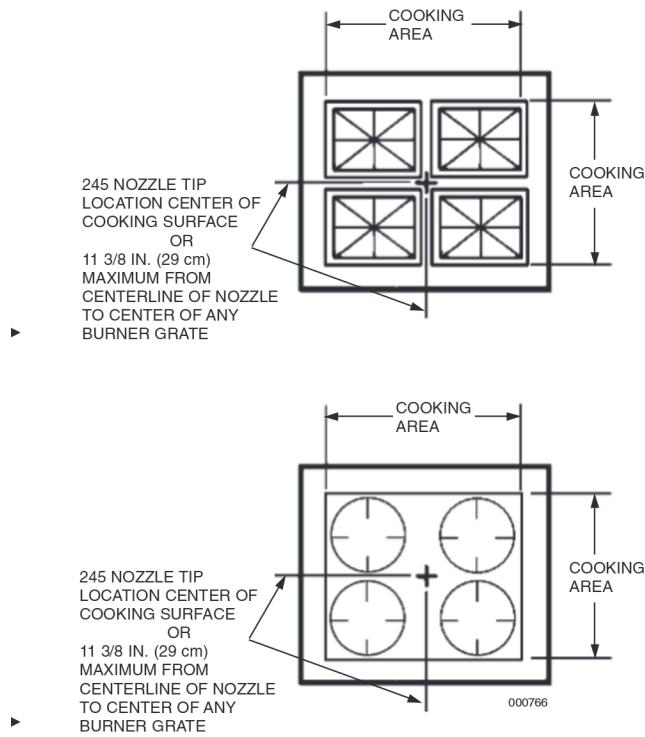

FIGURE 30
- ▶ Four burner grates shown in Figure 30. For single or double burner grates, locate nozzle at center of cooking surface or 11 3/8 in. (29 cm) maximum from nozzle centerline to center of any burner grate.